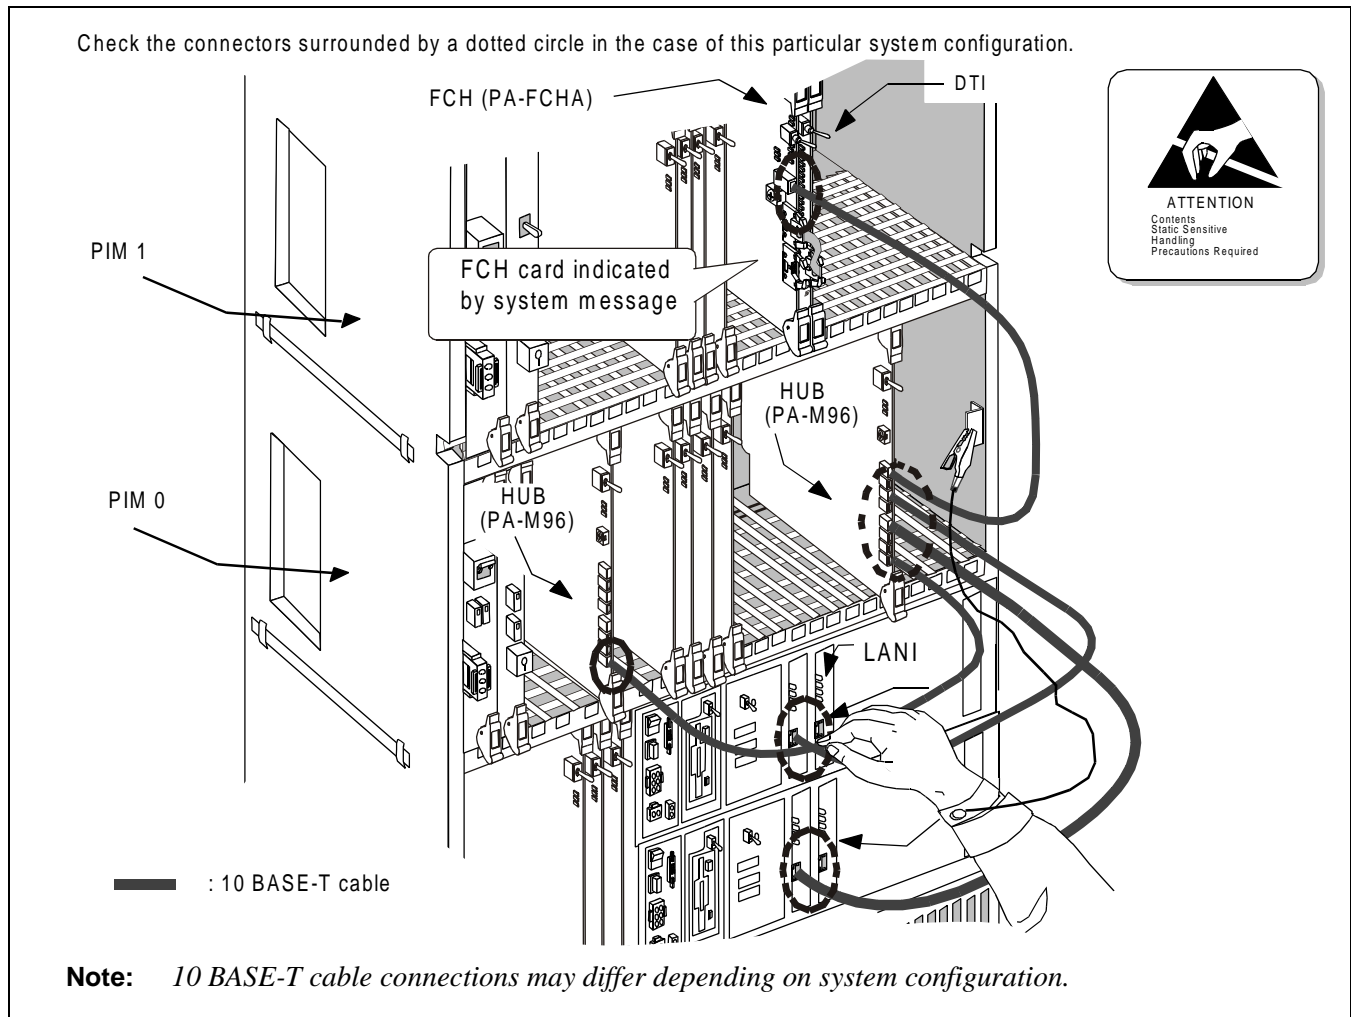

Figure 7-12 10 BASE-T Cable Connection Check
STEP 1: Make sure that the related Ethernet cables are securely inserted into the connectors. See Figure 7-12. If not, securely insert the cable and confirm whether System Message 23-T FCH Fault Recovery Notification is displayed as the result of cable insertion. If no fault is found in this step, move to STEP 2.